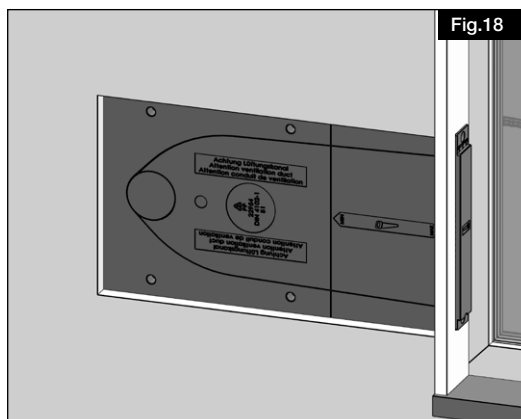
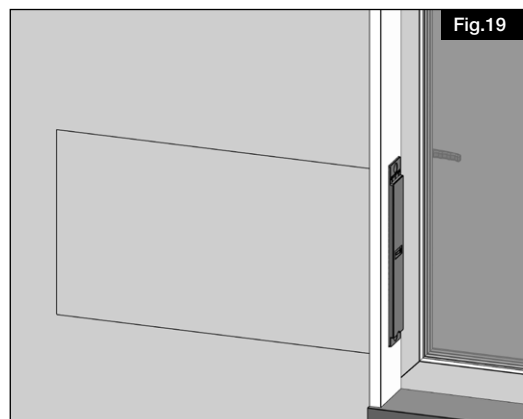

Fig.18
Fig.19
15. Attach the surrounding insulation panels (see Fig.18/Fig.19).